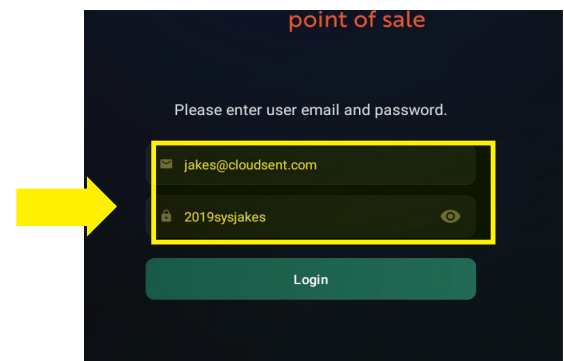

Figure 22
6. You may see a screen asking for User Email and Password. If so, Enter the User Email and Password on your CloudSent Log On Sheet found in the Red Bag (Figure 22).